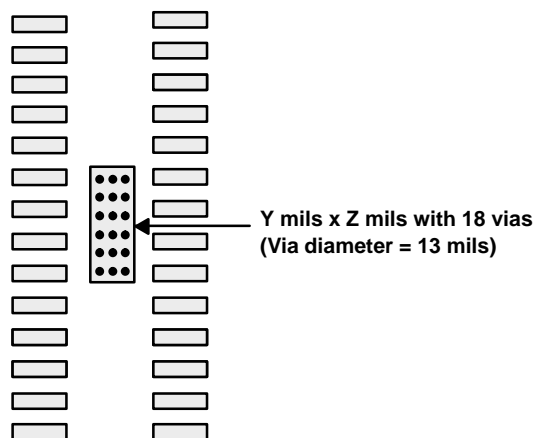

Figure 9. PowerPAD PCB Etch and Via Pattern
1. Prepare the PCB with a top side etch pattern as shown in Figure 9. There should be etching for the leads as well as etch for the thermal pad.